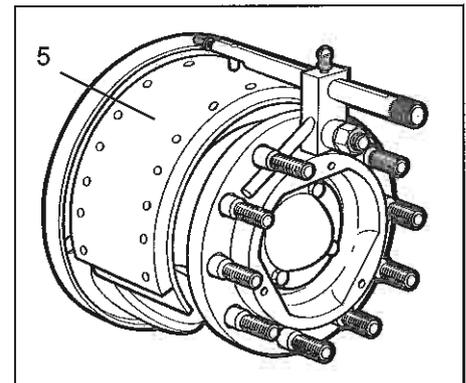

Fig 3
2. With the adjuster almost fully wound off, fit the gauge onto a wheel stud (Fig. 3), with the locating arm (1) against the next stud, and retain with a wheel nut.